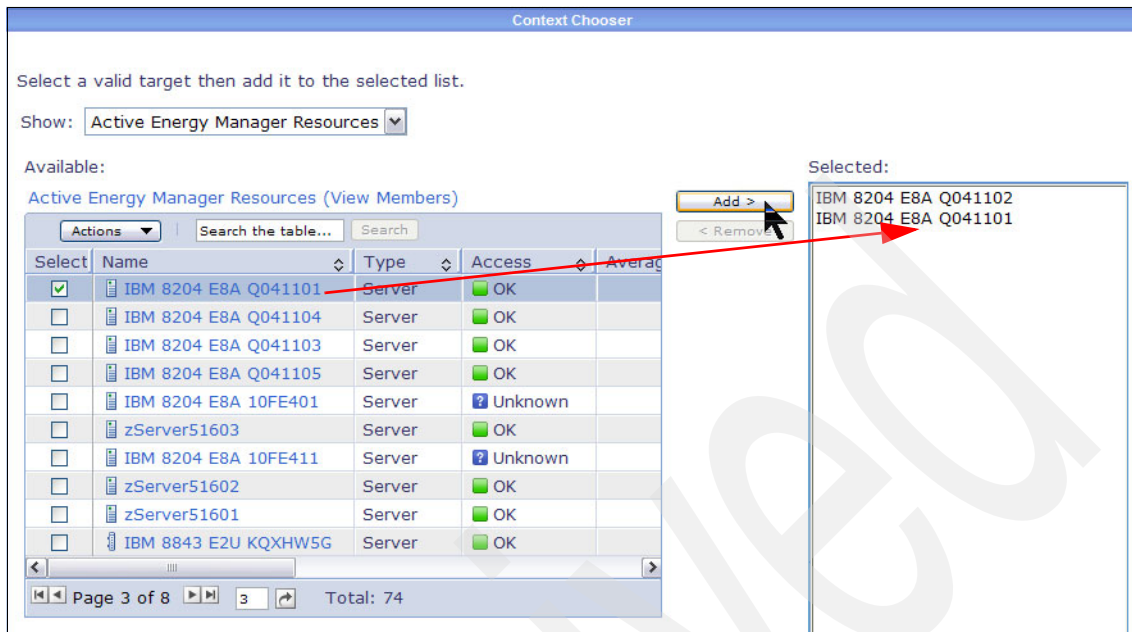

Figure 7-55 Applying a policy - 3
3. In the display shown in Figure 7-55 on page 344, perform these tasks:
As shown in Figure 7-55 on page 344, we select from a list of individual Active Energy Manager resources.